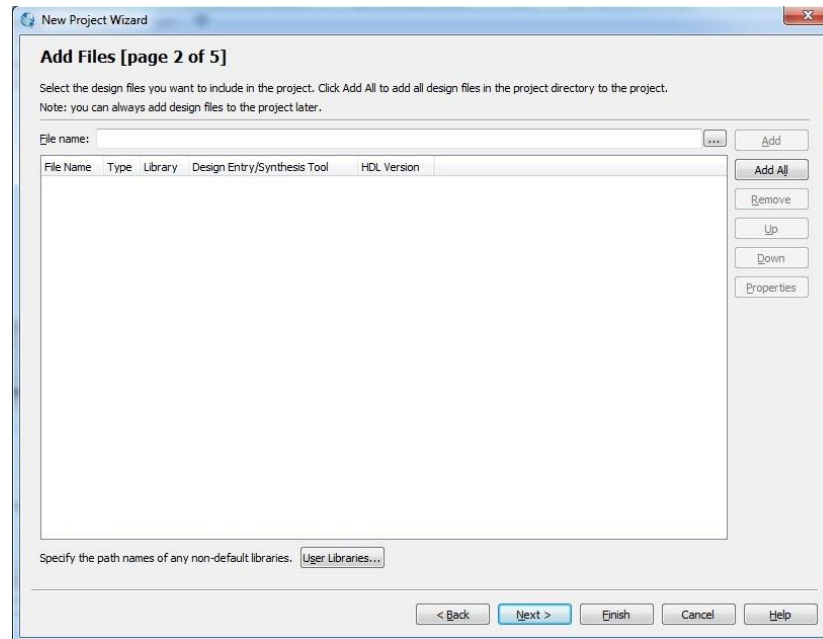

Figure 2
2. Click **Next**, if the working directory does not exist, a pop-up box will appear to ask you to create the directory, click yes and reach the window in Figure 2. Here you could include the existing design files.